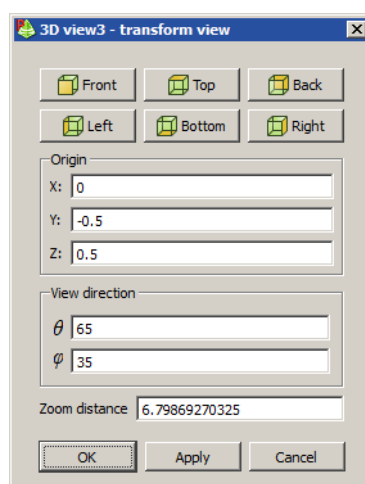

Figure 8-7: View transformation dialog.
- *View*: All camera position settings can be altered here. Windows can be tiled, cascaded, closed, etc. The visibility of the project browser and result palette can also be set. The viewing angle can be set to focus on any origin, distance and angles. Figure 8-7 shows the *Transform* view dialog that can be used to manually edit these properties.